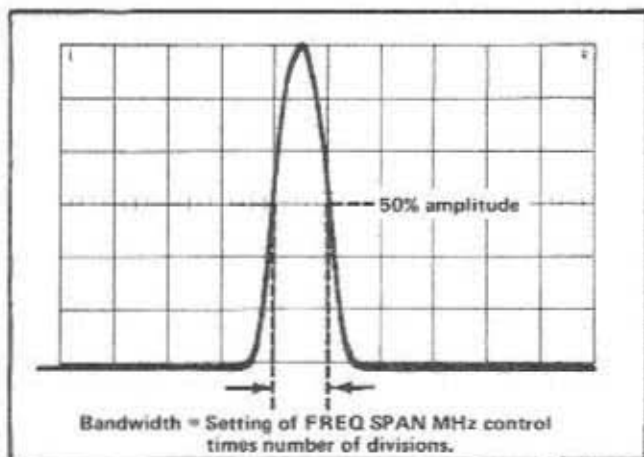

Fig. 5-4. Measuring resolution bandwidth.
c. Adjust the CENTER FREQ MHz control to position the display so the bandwidth at the -6 dB (50% amplitude) point can be measured. See Fig. 5-4.